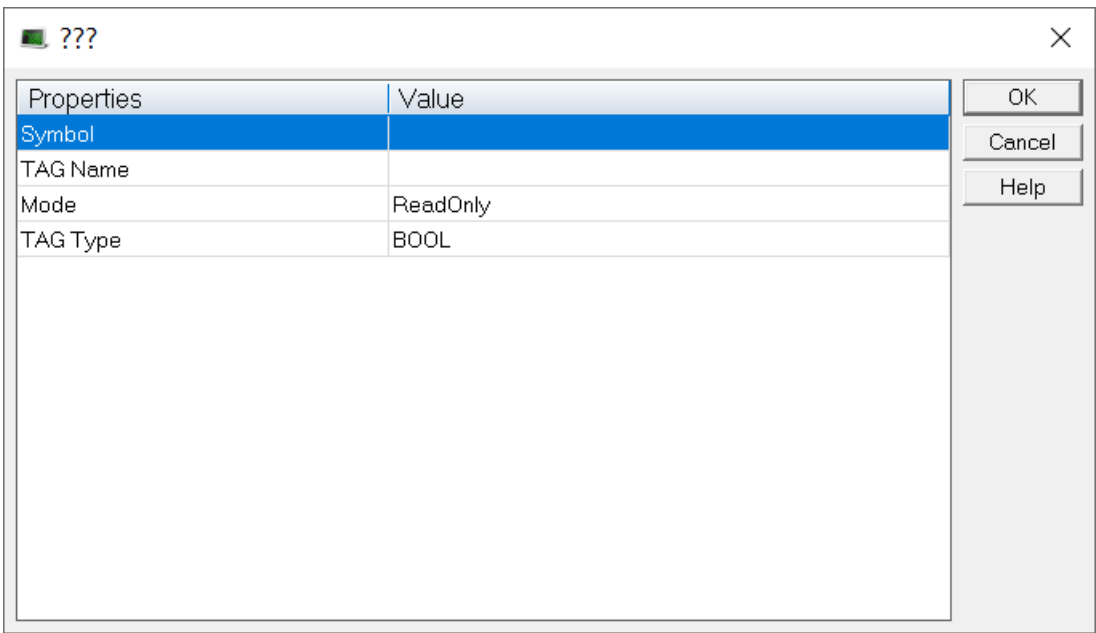

Figure 2-13: Insert Variable (???) dialog box
2. On the vertical toolbar, click the **Insert Variable** button (). The "OPC UA - Insert Variable dialog box" (→ p. 73) opens. (Figure 2-13)